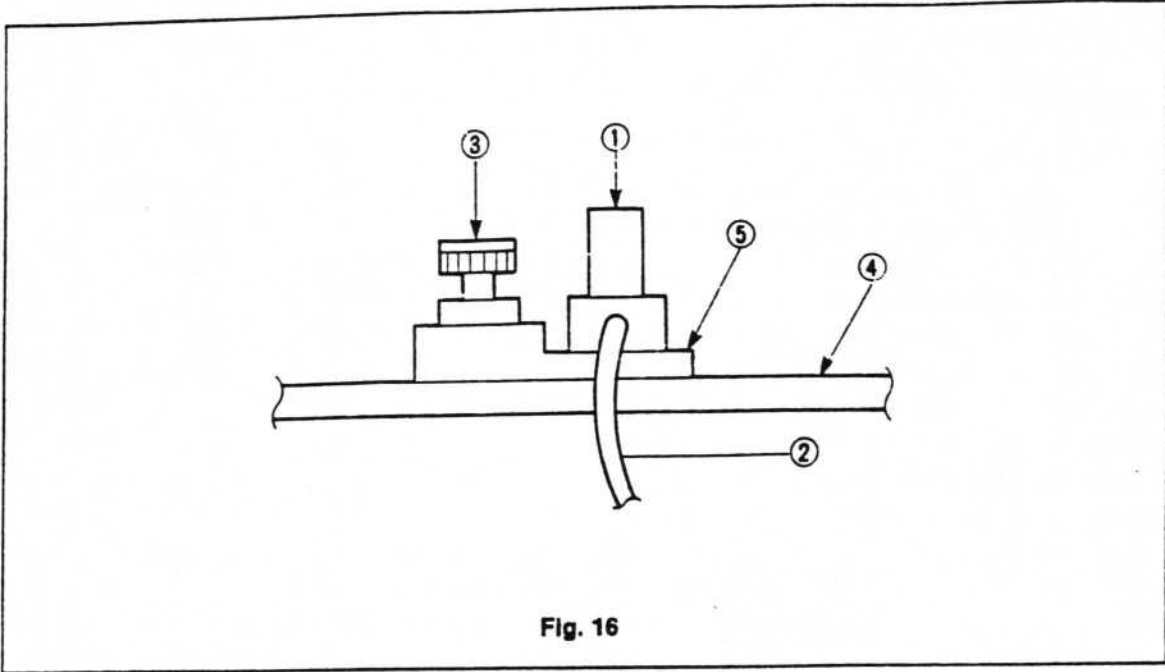

Fig. 16
2. Remove the securing bolt ③ (see Fig. 16) and remove the BU (backup) cylinder stand ⑤ from the backup pin stand ④.